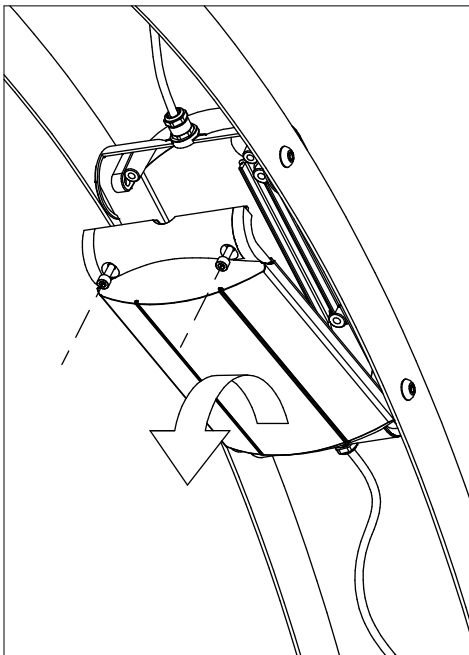

FIG. 2-1
1. LOOSEN AND SAVE (2) 1/4-20X1 1/4" SOCKET CAP SCREWS LOCATED ON THE CAST BALLAST HOUSING DOOR TO ACCESS EXISTING BALLAST ASSEMBLY. (FIG. 2-1)